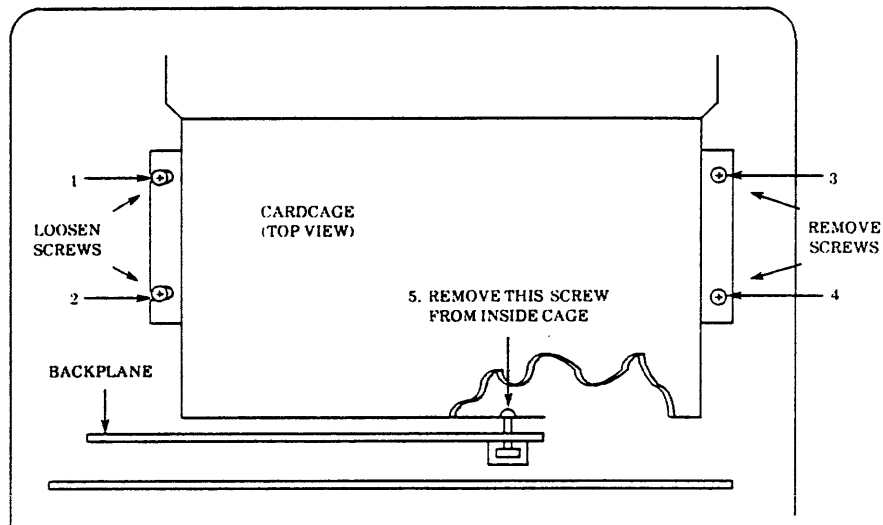

Figure 3-9. Cardcage Removal
4. As shown in Figure 3-9, there are five screws holding the cardcage in place: four outside and one inside near slot 1. Remove the four outside screws and loosen the inside screw.